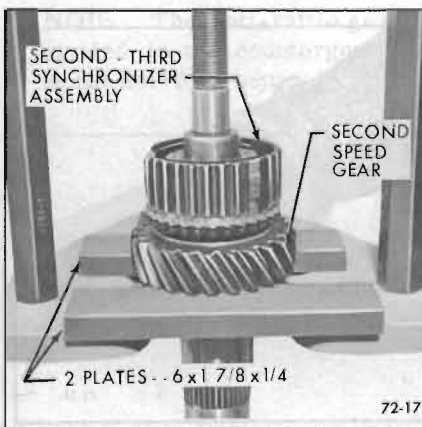

Figure 72-17—Removing Second-Third Speed Synchronizer Assembly
8. Support second speed gear on press plate using two (2) pieces of stock 6 x 1-7/8 x 1/4. See Figure 72-17. Remove second-third speed synchronizer assembly and second speed gear.